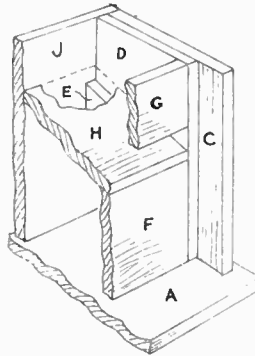

Fig. 5
The two interior sides (D) are next cut, and glued inside the sides as seen in Fig. 5. The piece (E) will then be glued to the face of these pieces, thus forming the supports for the sloping floor (H).
supports (E). Now above (F) and in direct line with it is the upper front (G), its actual place being shown in Fig. 5, etc. It is simply a rectangular piece glued between the two inner sides (D).